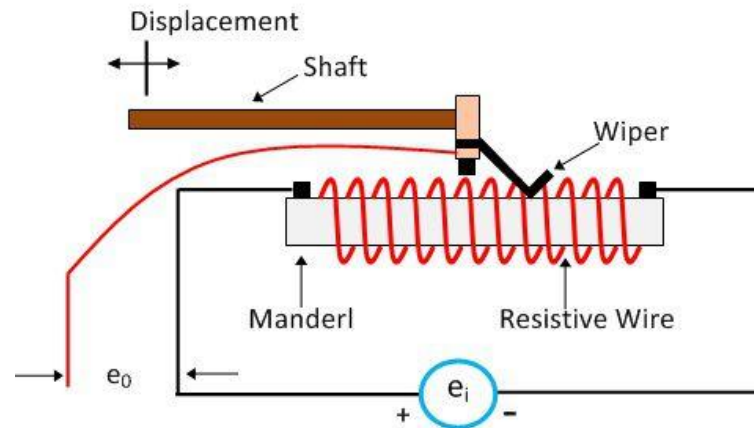

Figure 4.1 Resistance translational potentiometers
- The simplest form of resistance translational potentiometers as shown in Fig. 4.1 consists of a stretched resistance element and a slider.